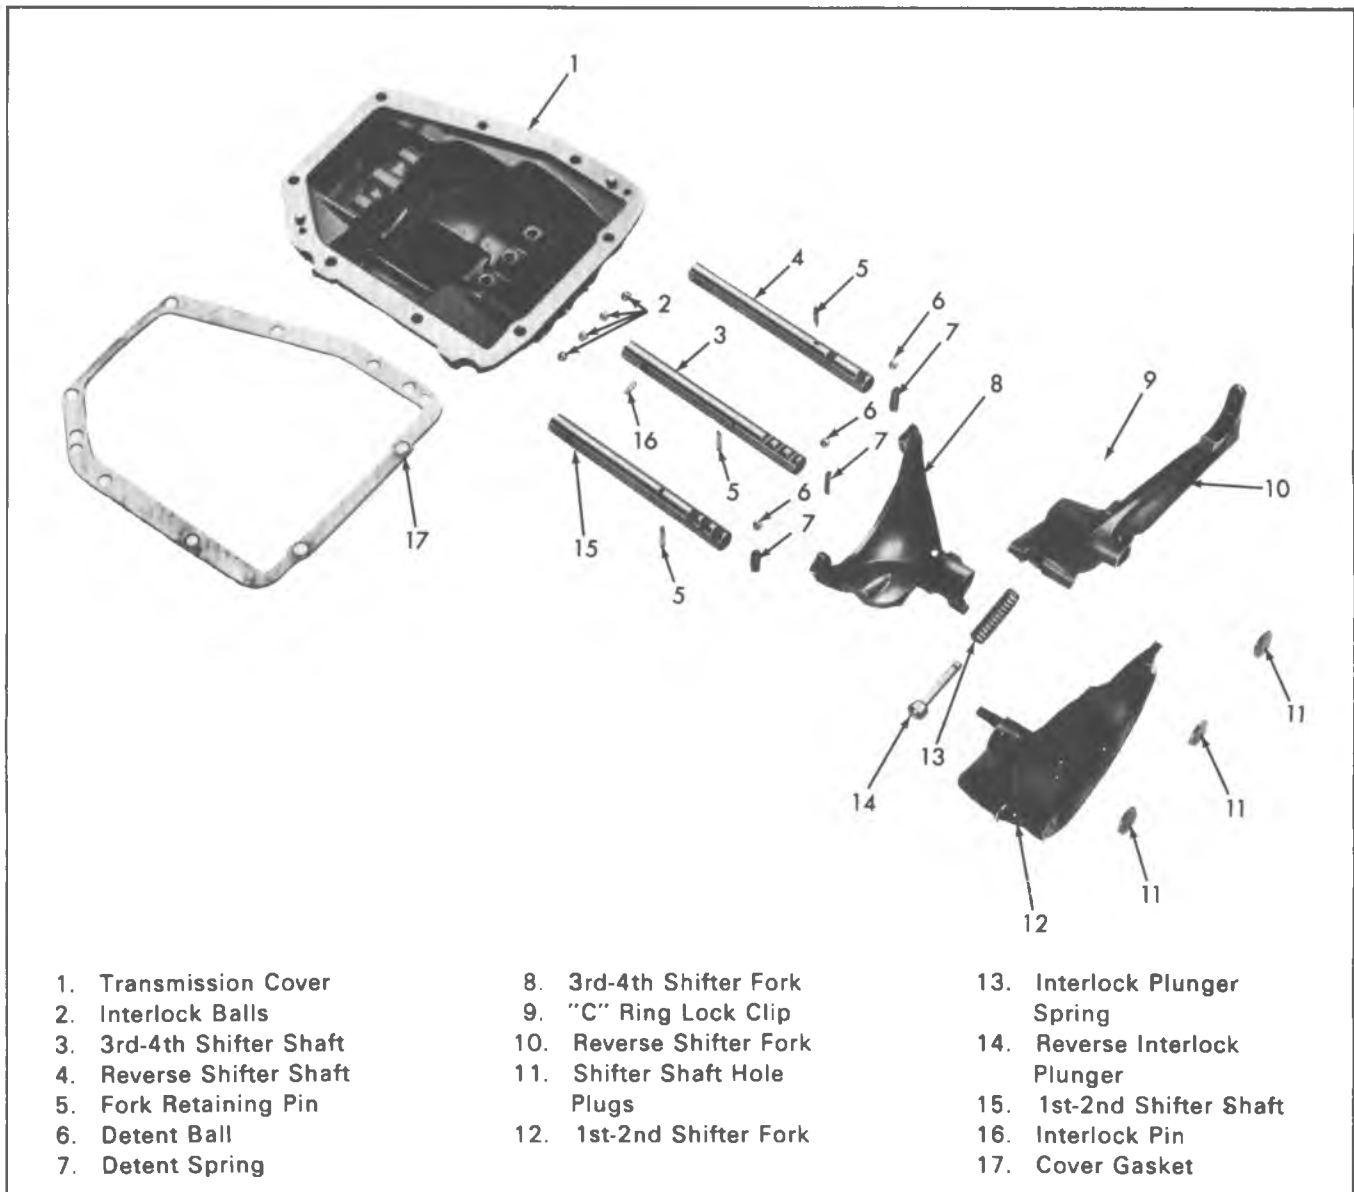
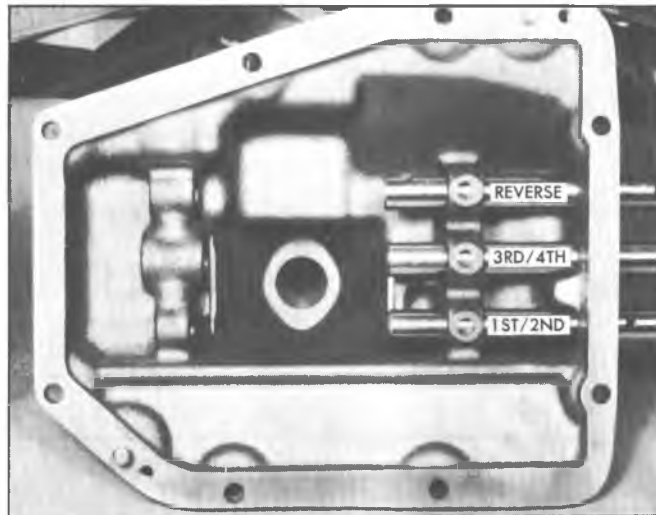

Fig. 1X—Cover Assembly - Exploded View
Fig. 2X—Shifter Shaft Installation
ASSEMBLY (Fig. 1X)
1. In reassembling the transmission cover, care must be used in installing the shifter shafts. They should be installed in the order shown in Fig. 2X, namely, reverse 3rd-4th and 1st-2nd. Figure 1X illustrates difference between shafts.
3. Start shifter shafts into cover; depress detent balls with small punch and push shafts on over balls. (See Fig. 2X).
5. Place two (2) interlock balls in cross-bore in front support boss between reverse and 3rd and 4th shifter shaft. Install the interlock pin in the 3rd and 4th shifter shaft hole and grease to hold in place. Push 3rd and 4th